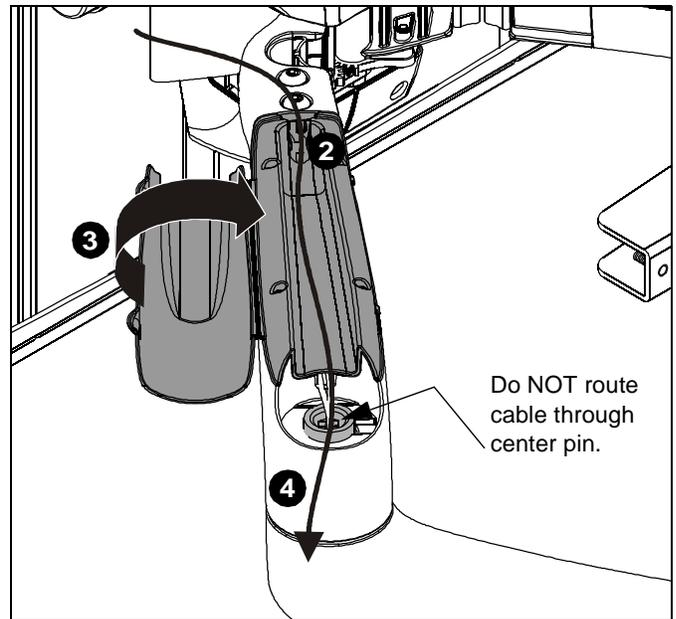

Figure 36
- Extend cables from display and lay cables within top of arms. (See Figure 36)
- Close cable management covers, being careful to not pinch cables under covers. (See Figure 36)
- NOTE:** Do NOT route cables through center pin. (See Figure 36)